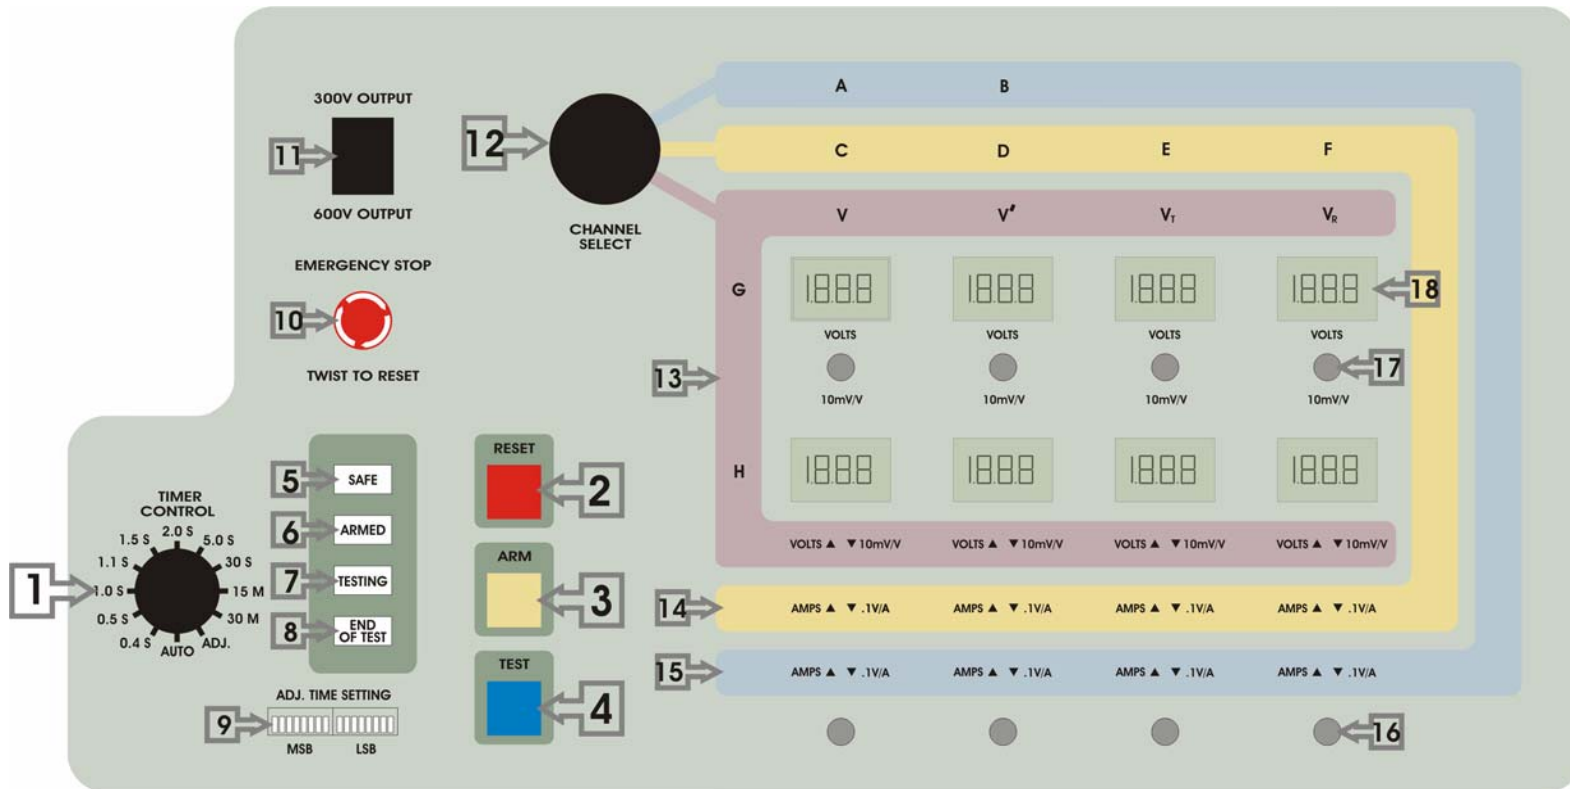
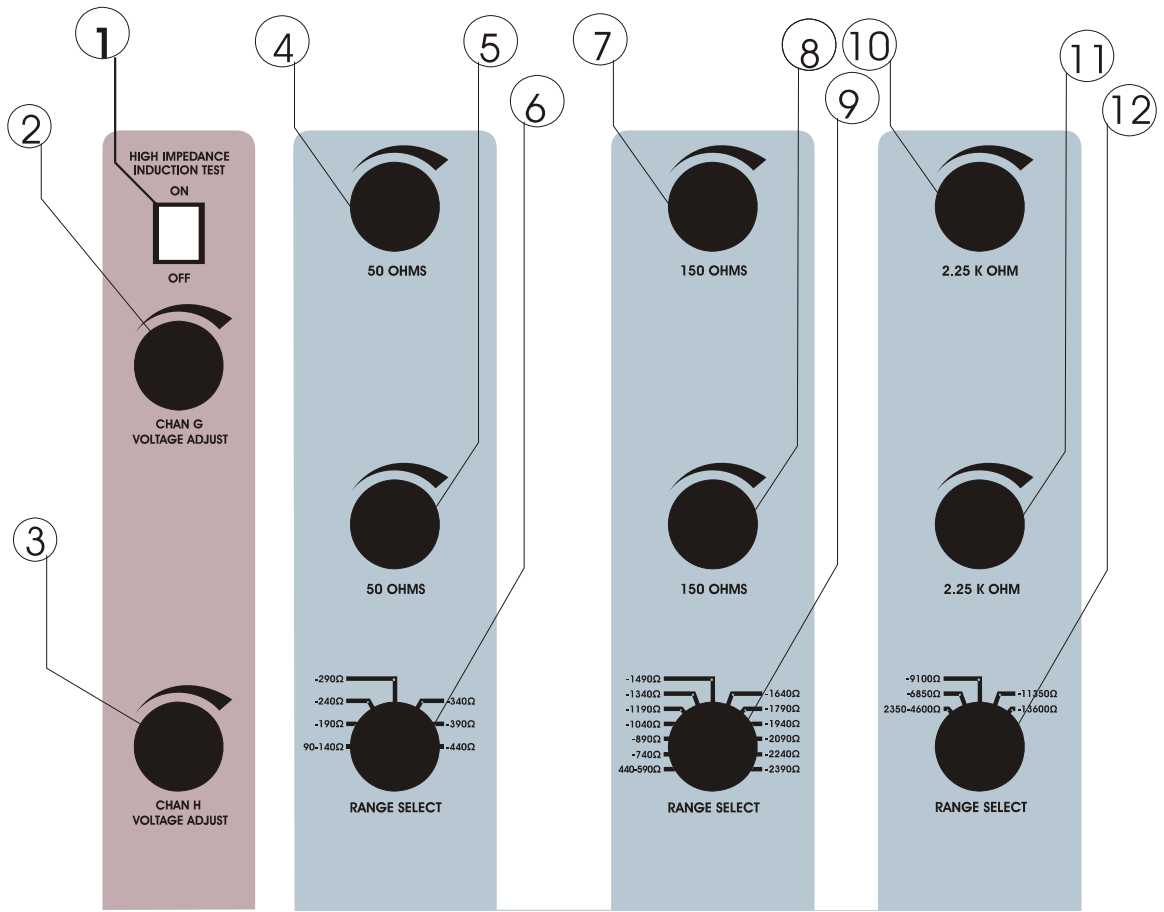

Figure 1. Controls, Indicators – PT-600 Timer Control and Metering Panel
Figure 2. PT-600 Channel Voltage Adjustment Knobs
In case of trouble, the High Impedance Induction Test can also be terminated by turning the switch at the top of the Violet Band to the OFF position. Please see Figure 2, Item 1 for location.
To conduct High Impedance Induction Tests, the switch at the top of the Violet Band must be turned to the ON position. The Voltage Adjust knob at the bottom of the PT-600 should be set to zero when conducting the High Impedance Induction Test, so all other outputs are at zero potential. For switch and knob locations, see Figure 2, Item 1.
The interlocked plexiglass door covers the outputs of the PT-600 during operation. Opening the door defeats the outputs, but use of the **RESET** button or the Emergency Stop switch is recommended instead, for safety reasons. To halt High Impedance Induction Testing, the switch at the top of the Violet Band can be turned to the OFF position. To ensure operator safety, set the High Impedance Induction Test Switch to the OFF position when this test is not being conducted. Conversely, the Voltage Adjust knob at the bottom of the PT-600 should be set to zero when conducting the High Impedance Induction Test, so all other outputs are at zero potential. For switch and knob locations, see Figure 2, Item 1.
EMERGENCY STOP buttons. To conduct this test, turn the switch at the top of the Violet Band ON. For safety, this switch should be turned off when these tests are completed. Conversely, the Voltage Adjust knob at the bottom of the PT-600 should be set to zero when conducting the High Impedance Induction Test, so all other outputs are at zero potential. For switch and knob locations, see Figure 2, Item 1.
The rear door and the clear plexiglass door over the front lower middle panel are interlocked. If either of these doors are opened, the 600V and 1000V outputs are disabled. **The outputs of the High Impedance Induction Test are unaffected by the interlocks. To disable the High Impedance Induction Test, the switch at the top of the Violet Band must be in the OFF position. This switch is illustrated in Figure 2, Item 1.**
Before using your Tester, take a few minutes to become familiar with the use of its controls, indicators and connectors. The front control panel features of the PT-600 Timer Control Panel (Green Section) are shown in Figure 1 and described in Table 2. The Channel Voltage Adjust Knobs for the Line Cross and High Impedance Induction Test are shown in Figure 2 and described in Table 3. Output Terminals and Measuring Terminals are shown in Figure 3 and described in Table 4. Finally, the Main Voltage Adjust knob (Brown Section) is shown and described in Figure 4. Tests that can be conducted with this version of the PT-600 are described in Section 4, while actual test instructions are discussed later in this Section.
4. Prepare the metering section of the PT-600 and connect voltage and current test leads as described in Figure 1 and Table 2. In this example, all connections are made to Channel A:
5. Set the Timer Control switch (Fig. 1 Item 1) to the 30 sec position. Any convenient time may be chosen to allow time to set up the Output Voltage. If a non-continuous output is used to conduct this test, do not set the Timer Control switch to a longer duration than the output is rated for, or damage to the PT-600 may result.